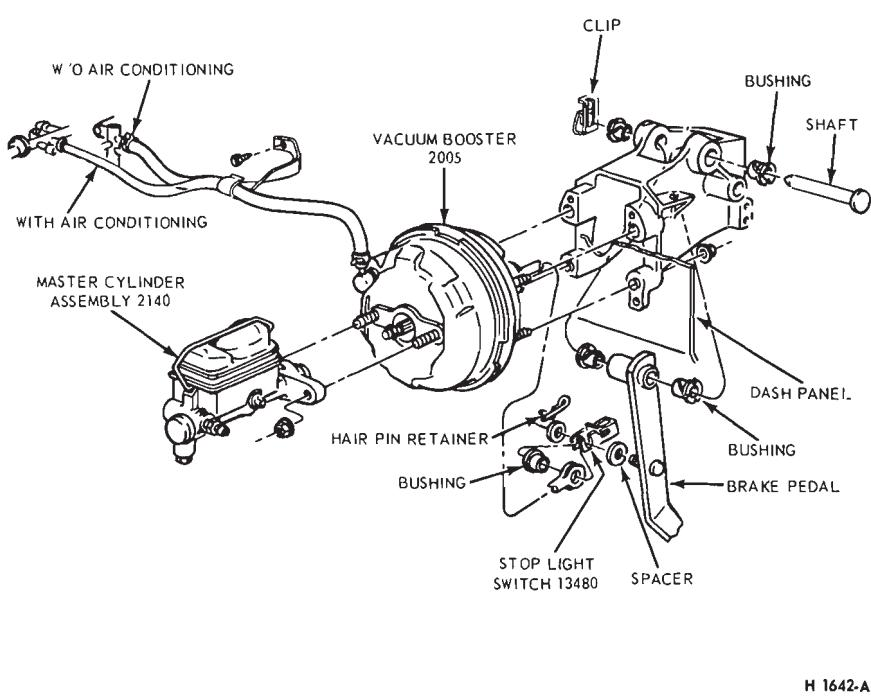

FIG. 10—Master Cylinder Installation—Power Brake—Ford, Mercury and Meteor
2. Position the master cylinder assembly over the booster push rod and onto the two studs on the booster assembly (Figs. 10 thru 14).
Disconnect the stop light switch wires at the connector. Remove the hairpin retainer. Slide the stop light switch off from the brake pedal pin just far enough for the switch outer hole to clear the pin, and then remove the switch from the pin and booster push rod. Be careful not to damage the switch during removal. Slide the booster push rod and the nylon washers and bushing off the brake pedal pin (Figs. 10 thru 14).
4. Remove the booster-to-dash panel attaching nuts or bolts (Figs. 10 thru 14). Remove the booster and bracket assembly from the dash panel, sliding the push rod link out from the engine side of the dash panel.
2. Mount the booster and bracket assembly to the dash panel by inserting the push rod or push rod link in through the hole and boot in the dash panel. Install the bracket-to-dash panel attaching lock nuts or bolts (Figs. 10 thru 14).
Install the inner nylon washer, the booster push rod, and the bushing on the brake pedal pin. Position the switch so that it straddles the push rod with the switch slot on the pedal pin and the switch outer hole just clearing the pin. Slide the switch completely onto the pin, and install the nylon washer as shown in Figs. 10 thru 14. Be careful not to bend or deform the switch. Secure these parts to the pin with the hairpin retainer. Connect the stop light switch wires to the connector, and install the wires in the retaining clip.
2. Remove the hairpin retainer. Slide the stop light switch off the brake pedal pin just far enough for the switch outer hole to clear the pin, and then lift the switch straight upward from the pin. Be careful not to damage the switch during removal. Slide the master cylinder or booster push rod and the nylon washers and bushing off the brake pedal pin (Fig. 10).
1. Apply a coating of SAE 10 Engine oil to the bushings and locate bushings in their proper places on the pedal assembly and pedal support bracket (Fig. 10).
3. Install the inner nylon washer, the master cylinder or booster push rod, and the bushing on the brake pedal pin. Position the switch so that it straddles the push rod with the switch slot on the pedal pin and the switch outer hole just clearing the pin. Slide the switch completely onto the pin, and install the nylon washer as shown in Fig. 10. Be careful not to bend or deform the switch. Secure these parts to the pin with the hairpin retainer.